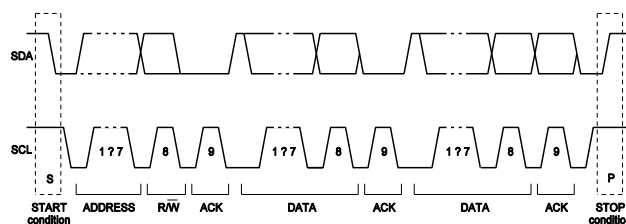

Figure 6: A Complete Data Transfer
Data transfers follow the format shown in Figure 6. After the Start condition (S), a slave address is sent. This address is 7-bits long followed by an eighth bit, which is a data direction bit (R/W). A ‘0’ indicates a transmission (write), and a ‘1’ indicates a request for data (read). A data transfer is always terminated by a Stop condition (P) generated by the master. However, if a master still wishes to communicate on the bus, it can generate a repeated Start condition (Sr) and address another slave without first generating a stop condition.